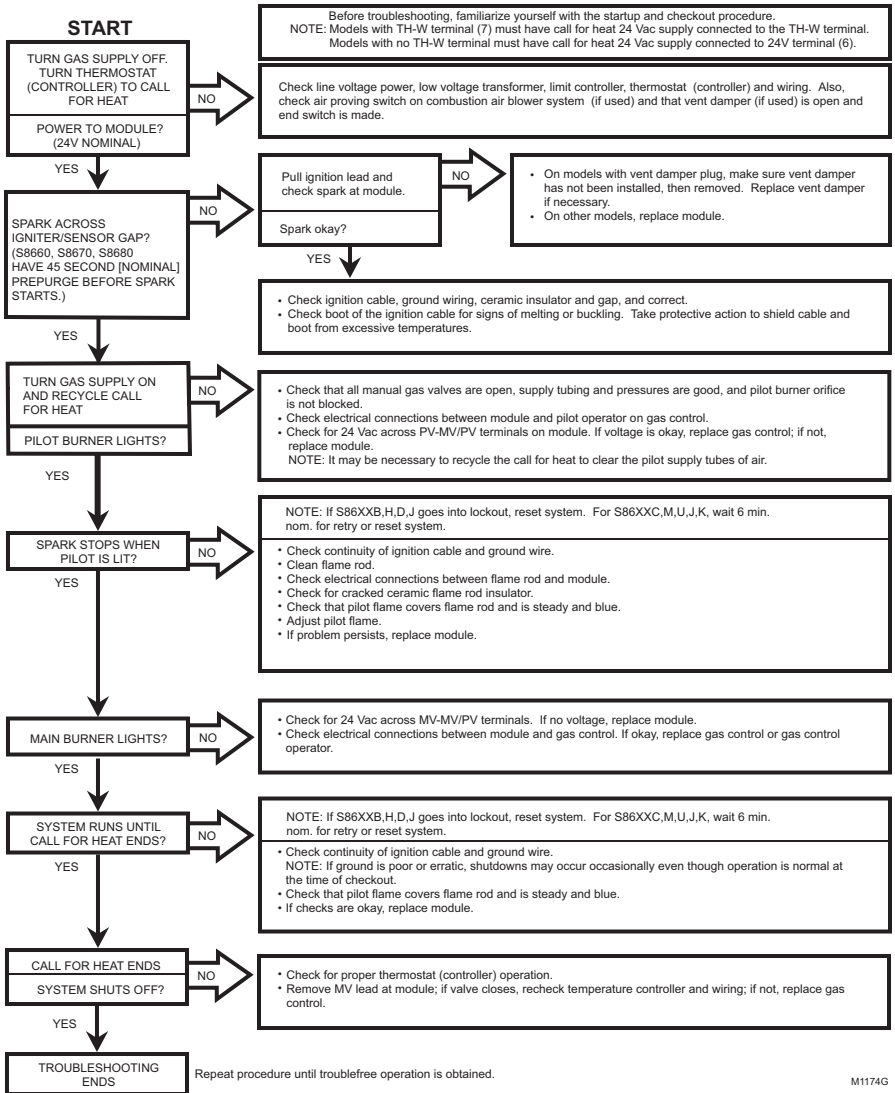

Fig. 14. S8600, S8610 Troubleshooting Guide.
Perform the checkout on page 11 as the first step in troubleshooting. Then check the appropriate troubleshooting guide (Figures 14 or 15) and the schematic diagram (Figures 16 or 17) to pinpoint the cause of the problem. If troubleshooting indicates an ignition problem, see Ignition System Checks below to isolate and correct the problem.
- e. If main burner doesn't light or if main burner lights but system locks out, check module, ground wire and gas control as described in appropriate troubleshooting chart, Figures 14 or 15.